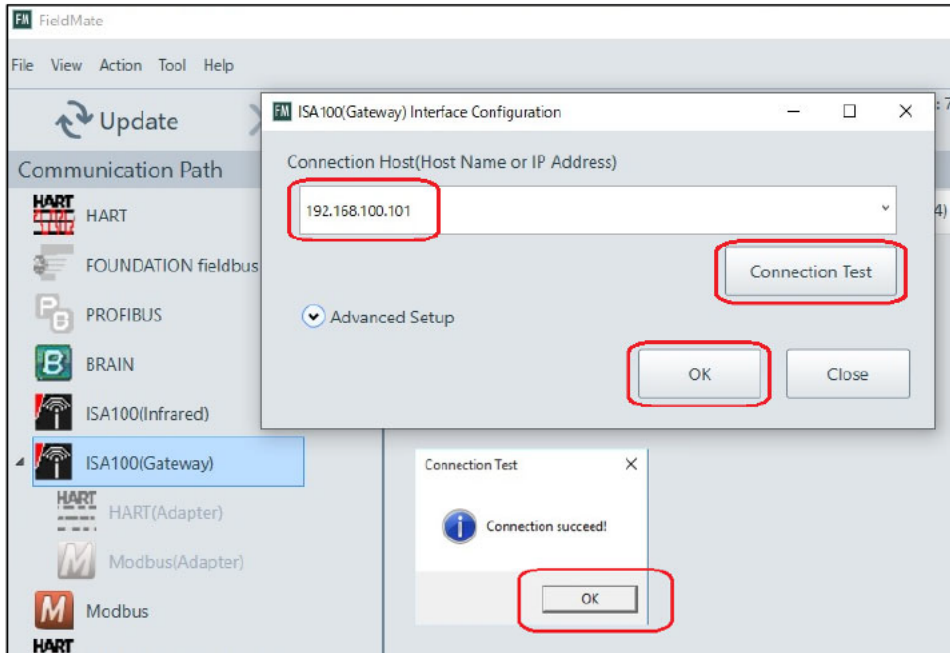

Figure 5-7 Segment viewer (ISA100 (Gateway) connection confirmation)
- ⑤ Enter the management station IP address, then click “Connection Test” to confirm the connection is normally established. (Figure 5-7)